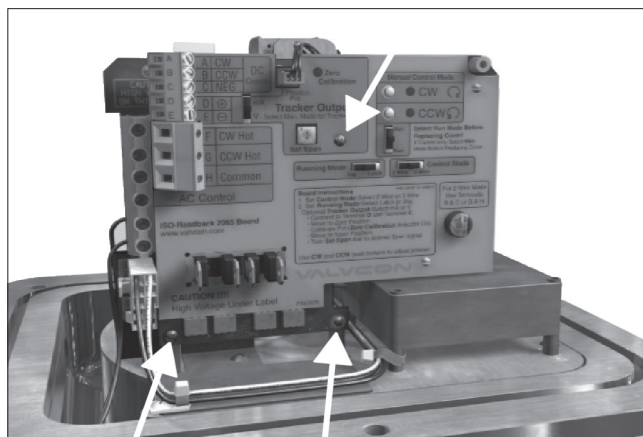

Figure 7.
3. Plug Pot connector into the 3-pin connector on the front of the Iso/Readback Board ("J1"). Plug Iso/Readback Board into Motor Board (P/N VC002015) via 10-pin connector and secure to the existing bracket with three mounting screws. (See Figure 7).